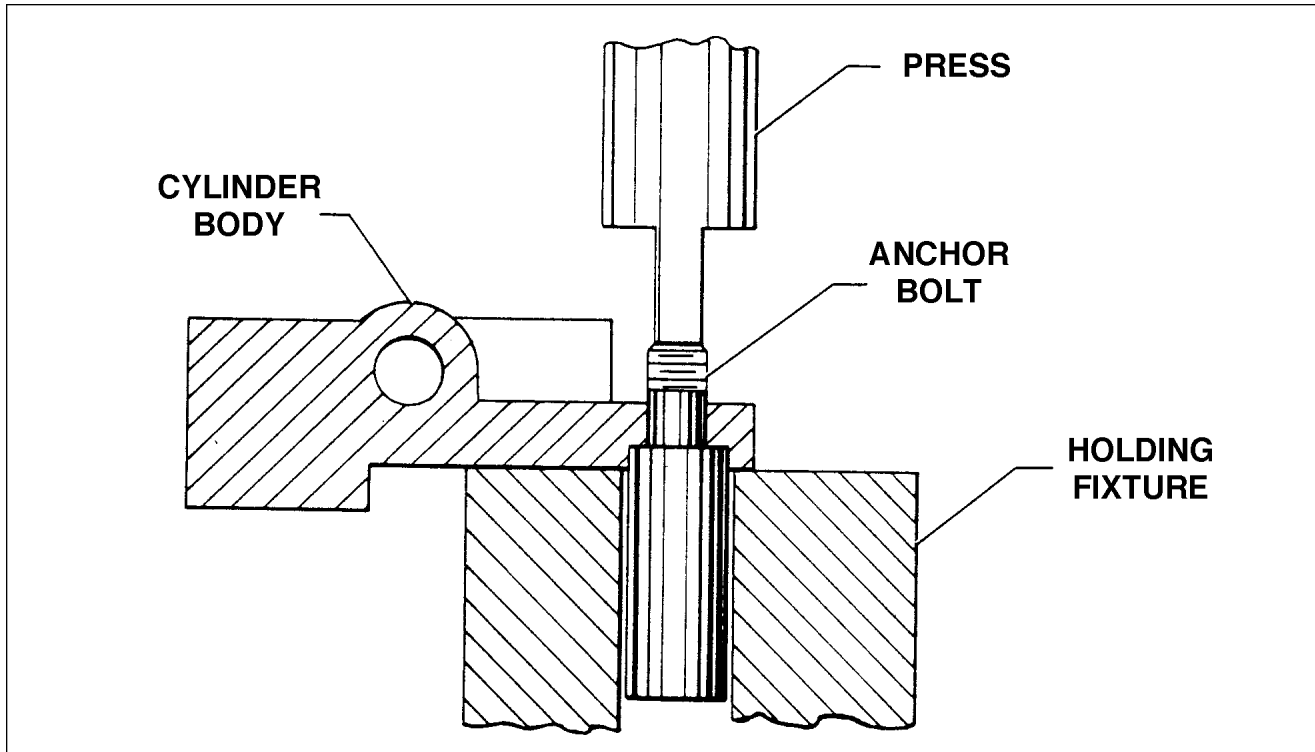

Figure 7-10. Removal of Anchor Bolt
1. Position cylinder assembly on a holding fixture. (Refer to Figure 7-10).